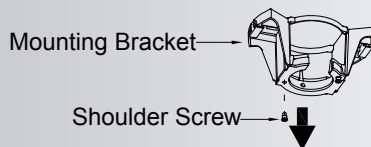

Fig. 15
**Step 1.** Remove one of the two shoulder screws in the mounting bracket. Loosen the second shoulder screw without fully removing it. (Fig. 15)